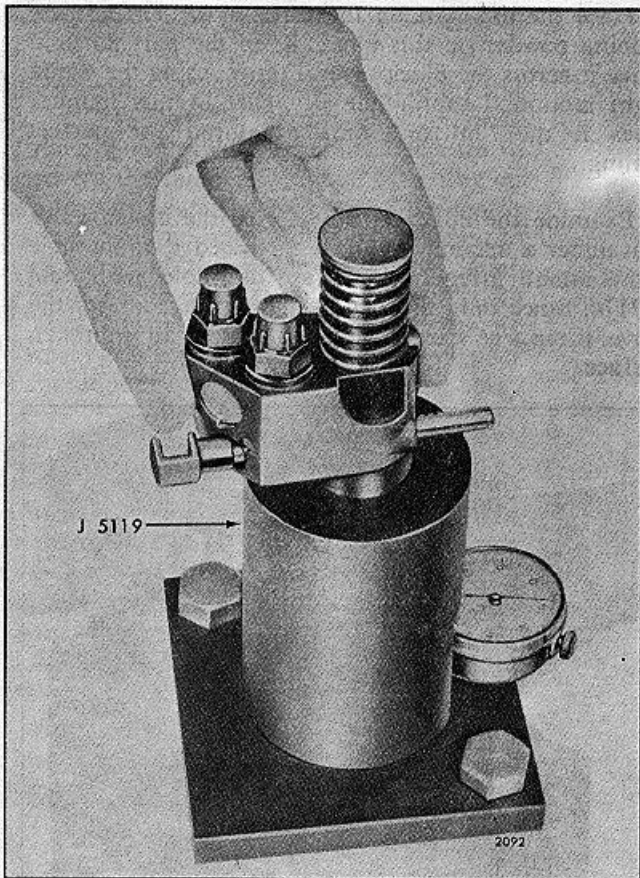

FIG. 36 Checking Injector Spray lip Concentricity using Tool J 5119
1. Place the injector in the concentricity gage J 5119 as shown in Fig. 36 and adjust the dial indicator to zero.